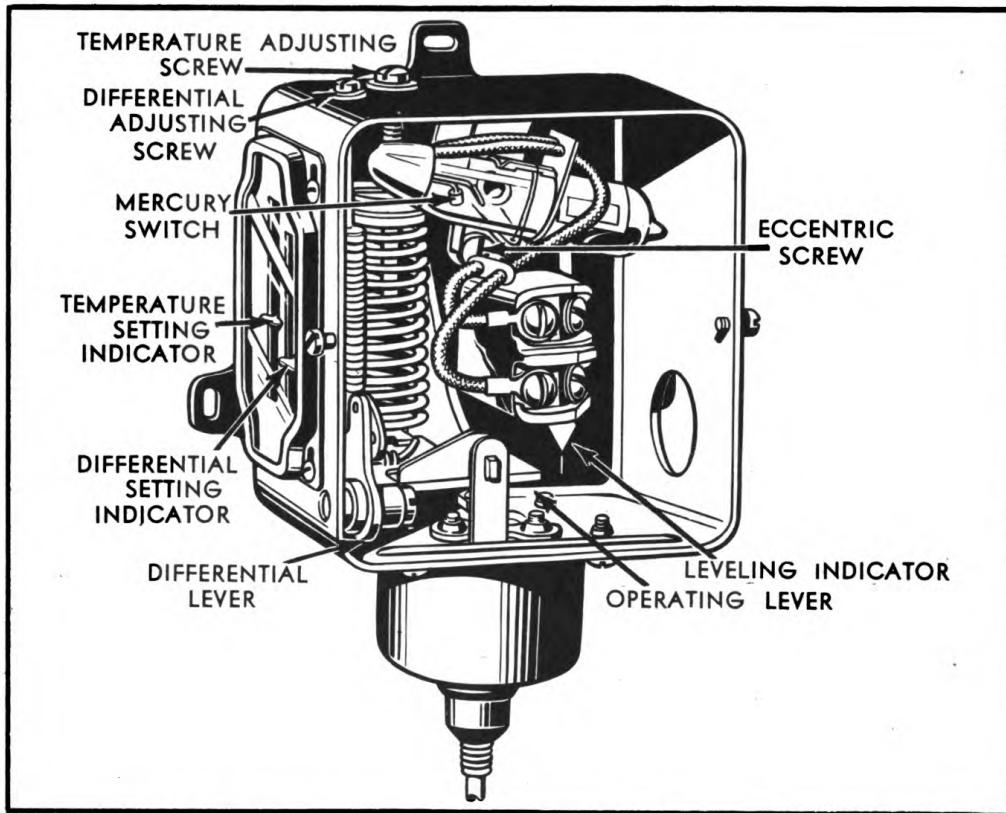

FIG. 91 Temperature Regulator Control Box
After a new switch has been installed, it may sometimes be found that, the operating differential of the controller is considerably smaller than that for which the indicator is set, and this may be an indication that the mercury switch is out of adjustment. Before making any adjustments, however, be sure that the difficulty is not due to the controller being "off level." Note the level indicator (F) in Fig. 91.